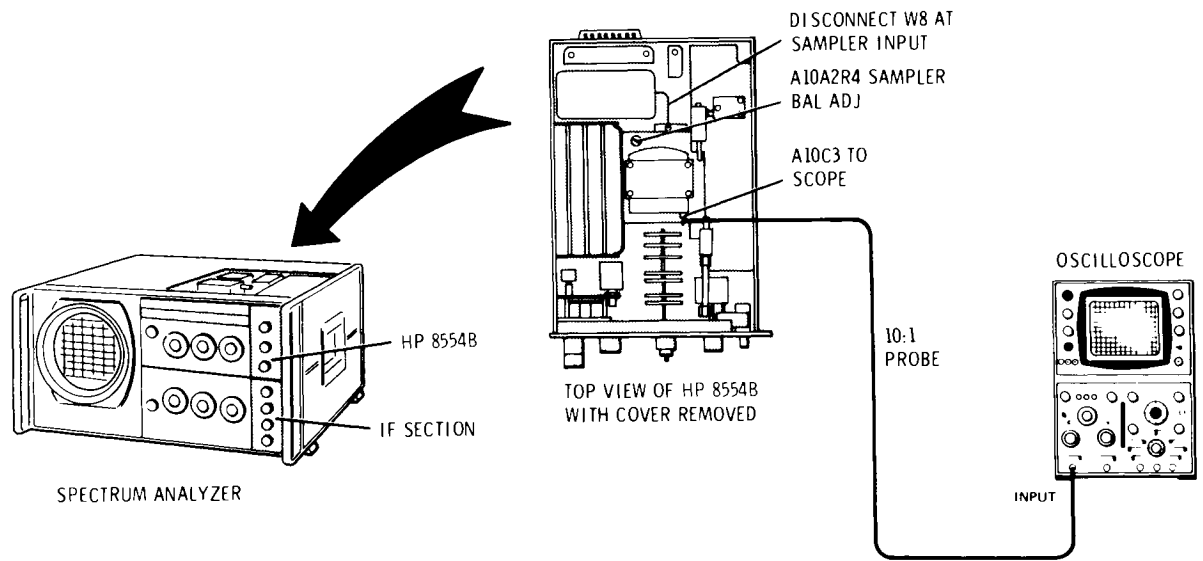

Figure 5-12. Sampler Balance Check and Adjustment Test Setup
- 2. Connect equipment shown in test setup, Figure 5-12, and make the following control settings: